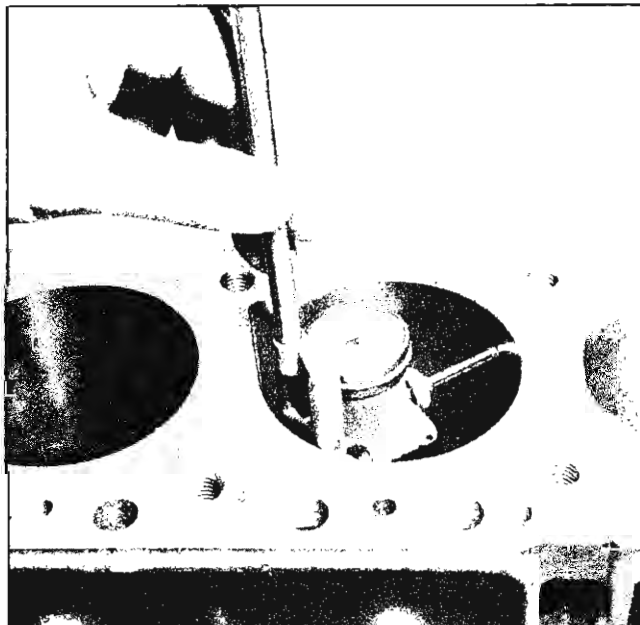

Fig. 63—Checking Cylinder Out-of-Round and Taper
2. Check the cylinder walls for taper, out-of-round or excessive ridge at top of ring travel. This should be done with a dial indicator (fig. 63). Set the gauge so that the thrust pin must be forced in about $\frac{1}{4}$ " to enter gauge in cylinder bore. Center gauge in cylinder and turn dial to "0." Carefully work gauge up and down cylinder to determine taper and turn it to different points around cylin-